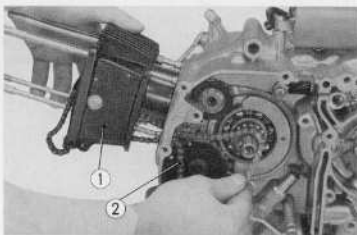

Fig. 3.48 Removing the cylinder
① Top compression ring
② Second Compression ring
③ Oil ring
④ Sealing function
⑤ Oil scraping
2. Remove the cam chain ② from the timing sprocket and remove the cylinder ① together with the chain. (Fig. 3.48)